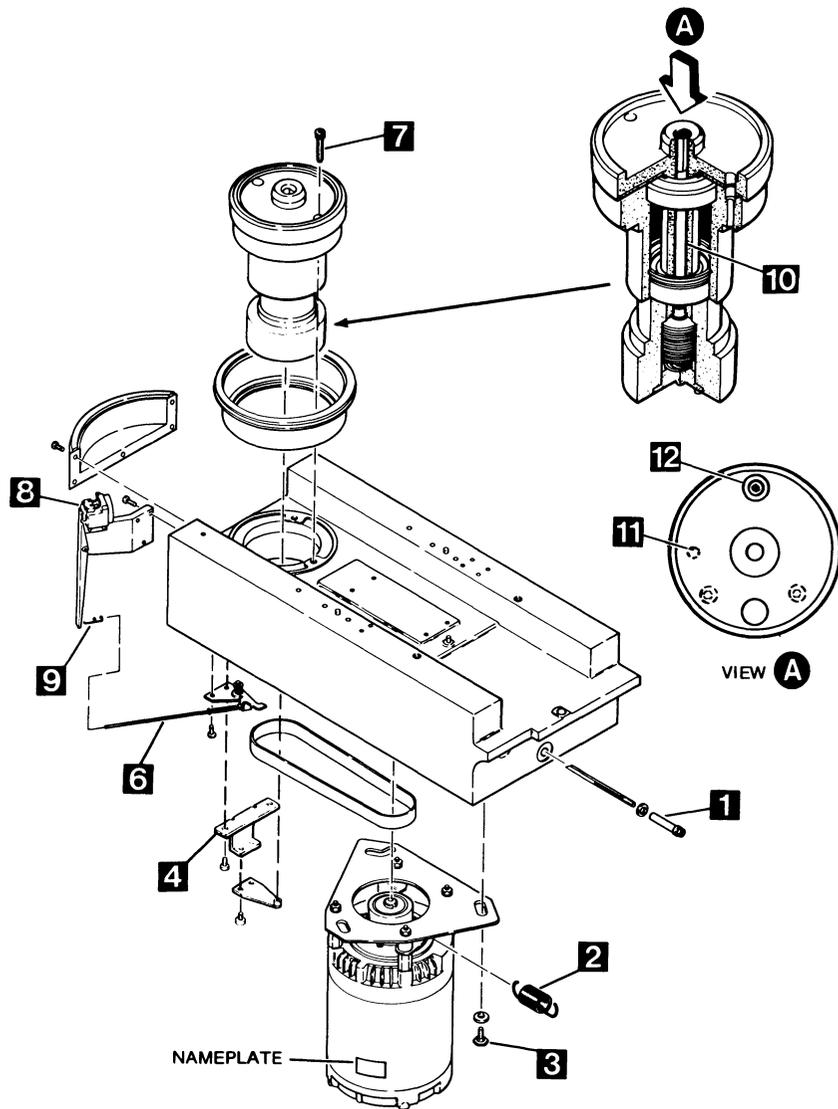

FIGURE 4-16. DRIVE MECHANISM
11. Remove the drive belt adjustment nut, 1 in Figure 4-16, using a 3/8" nut driver (or 3/8" socket and ratchet wrench). About 50 turns will be required.
14. Place a "spacer" (like that shown in Figure 4-15) on cabinet floor under the motor. With this spacer capable of supporting the weight of motor, remove three bolts, 3 in Figure 4-16, holding drive motor to deck plate. To remove these bolts, a $\frac{3}{8}$ " ratchet wrench and the following accessories are needed: $\frac{5}{8}$ " socket, a 2" extension, and a 12" extension, the latter for the rear bolt. Socket set is stocked under DEC part number 29-22445.
2. Remove spindle grounding assembly, [4] in Figure 4-16.
3. Remove spindle grounding assembly, **4** in Figure 4-16.
- a. Mount spindle housing by reversing steps 5 and 6. **Be sure to orient spindle housing so that the small hole **11** is on the left (9 o'clock position as viewed from the front VIEW A, Figure 4-16).**